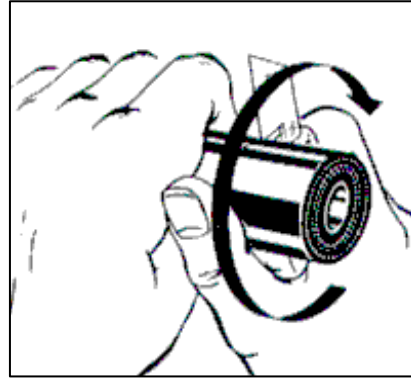

Figure 1.0
**Step 1:** Cut the silicone hose at a right angle to the required length. Put a small chamfer on the internal diameter. See figure 1.0